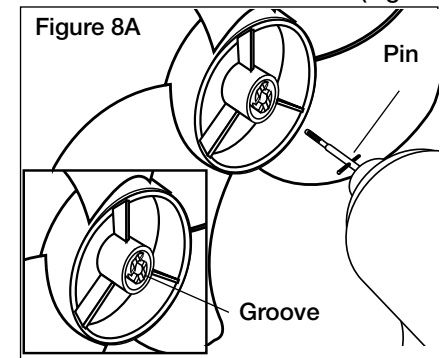

Figure 8A
9. Fully seat Rear Grill and secure with Plastic Nut turning Clockwise. Slide Blade onto Motor Shaft. (Figure 8) Align Groove on blade hub with Pin on motor shaft. (Figure 8A)